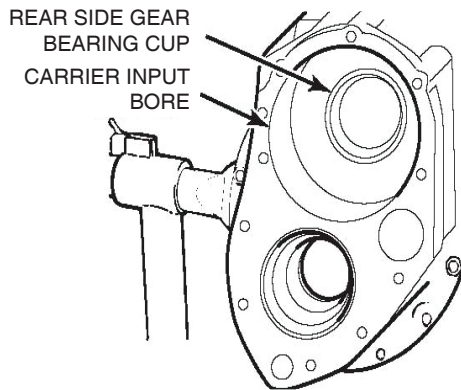

Figure 5.16
1. Place an inch-pound (N.m) torque wrench and the correct socket in the drive pinion nut. Figure 5.16.